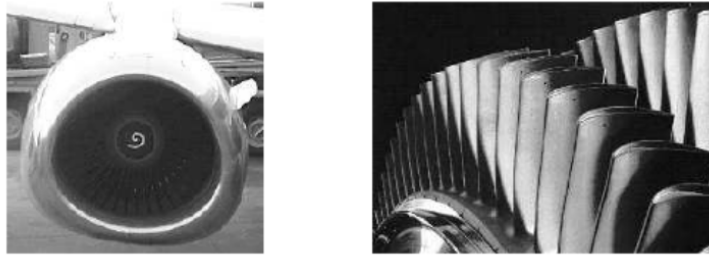

Figure 2: Turbine blades of a jet engine
3. The displacement field in a turbine blade of a jet engine shown in Fig. 2 can be given in a Cartesian reference frame by $\mathbf{u} = u_1 \mathbf{e}_1 + u_2 \mathbf{e}_2 + u_3 \mathbf{e}_3$, where